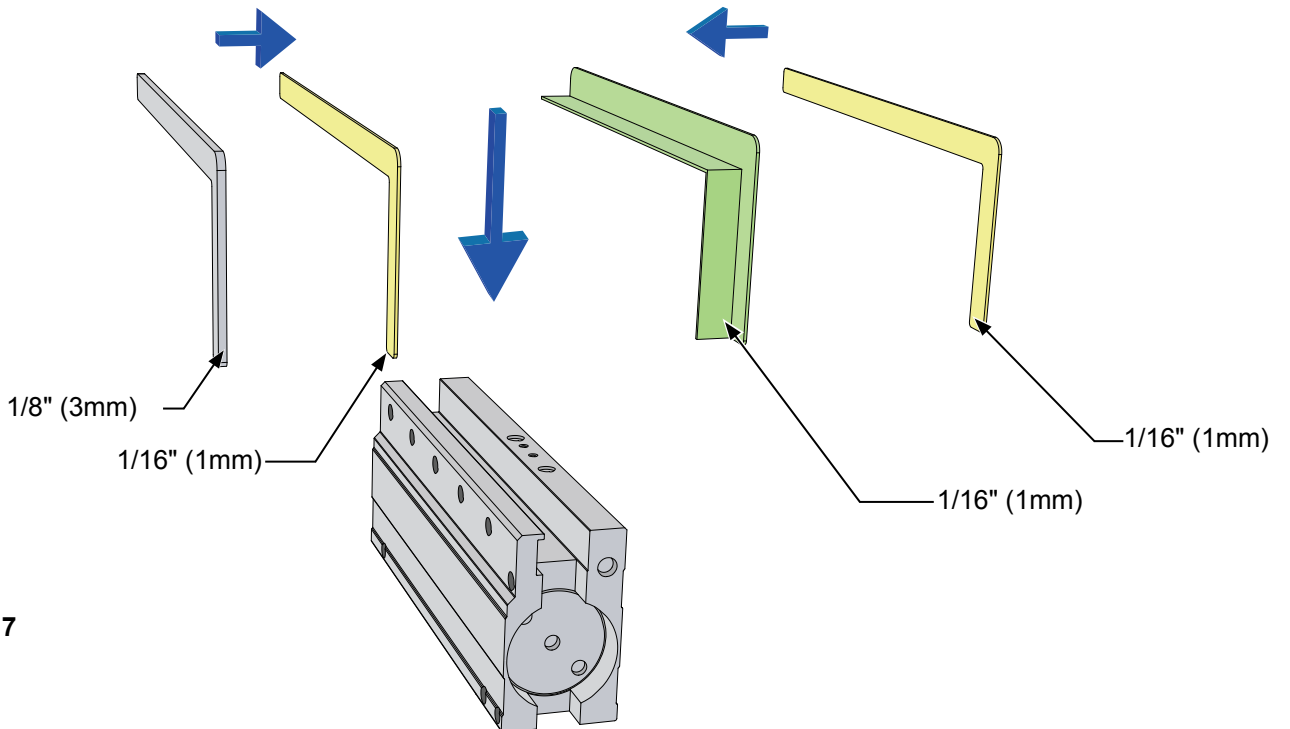

FIG. 7
5. Insert the glass gaskets as shown. (Fig. 7)